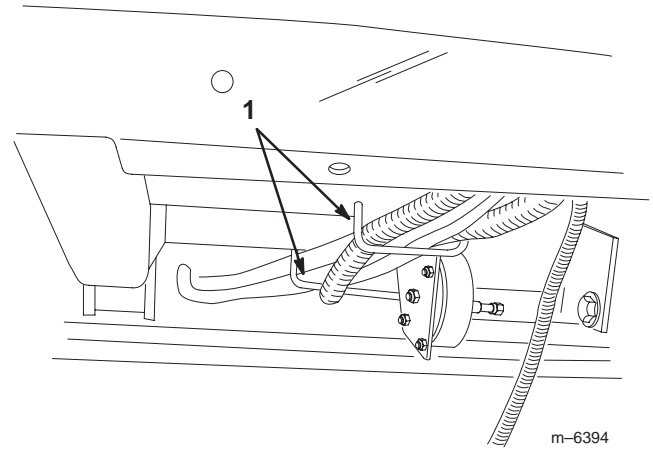

Figure 22
8. Route the rear control box harness through the dash, under the vehicle, through the wire harness rings, and back to the control box (Fig. 22 and 23).